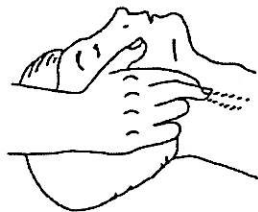

Figure 3
- Check carotid pulse (**Figure 3**); if pulse is absent, begin artificial circulation (**Figure 4**) depressing sternum 1 1/2" TO 2" (**Figure 5**).